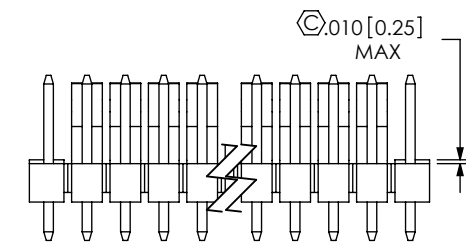

FIG 2
-M: SINGLE MODIFIED, SEE FIG 2 (USE LCW-36-S)